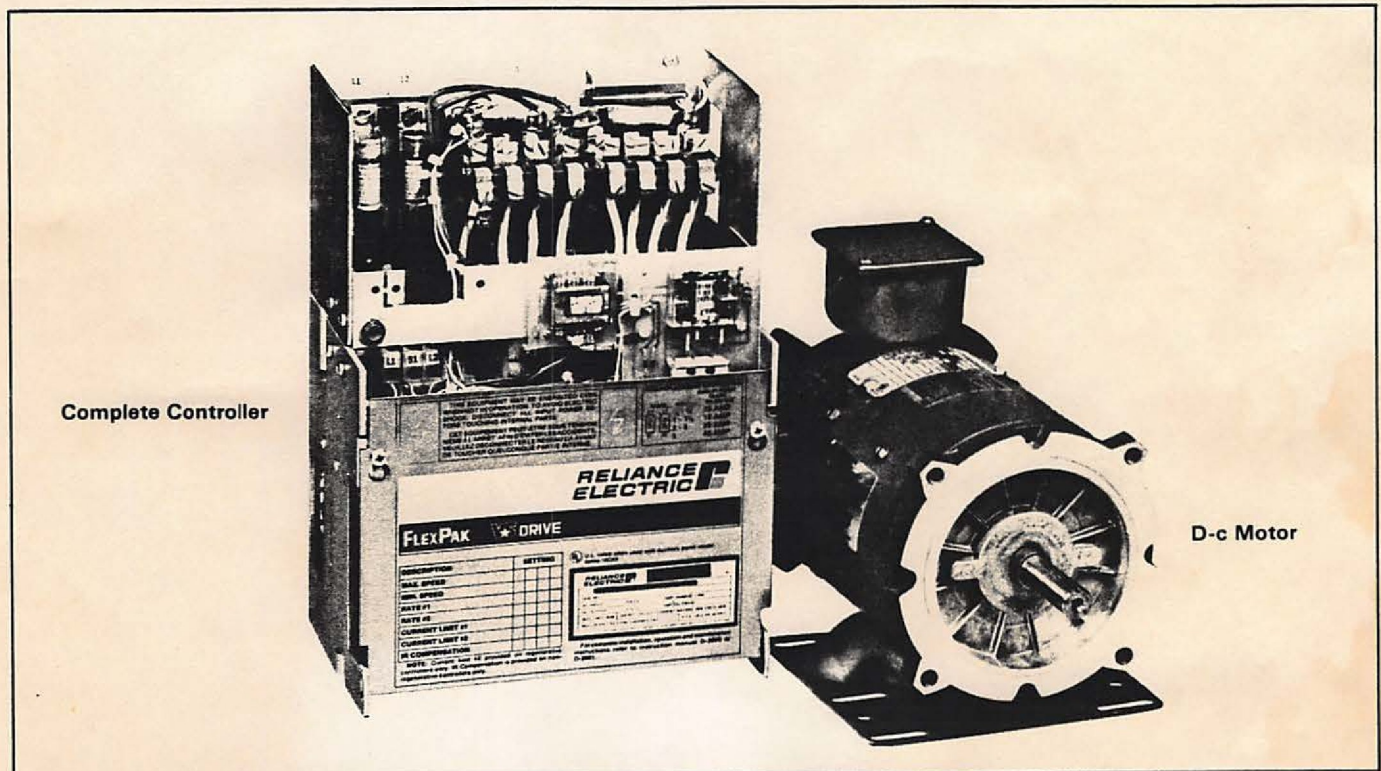

Figure 1.1 — FlexPak Plus Complete Controller and Typical Motor
**1.0 General** — This manual familiarizes the user with the FlexPak™ Plus D-C V\*S® drive controller. (Refer to Figure 1.1.) It describes assembly and installation procedures, gives a general overview of operation, and contains information on troubleshooting, maintenance, the ordering of spare parts, and specifications.